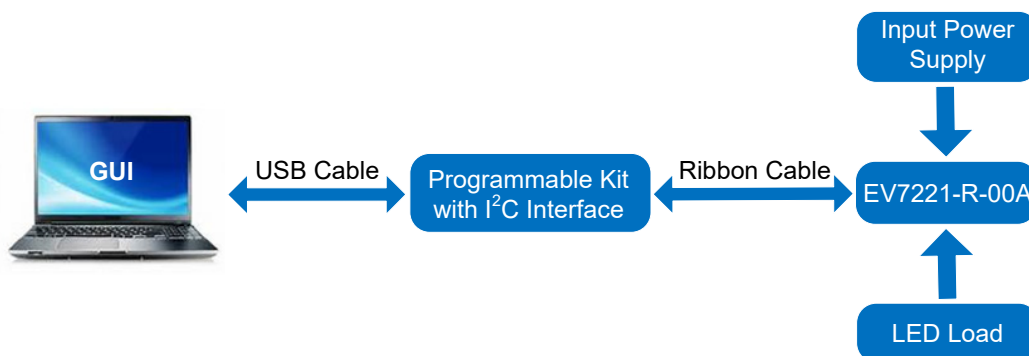

Figure 1: I²C Connection Diagram
4. Connect the SCL, SDA, and GND pins on the board to the SCL, SDA, and GND of a programmable kit (EVKT-USBI2C-02) with I²C interface, respectively (see Figure 1).